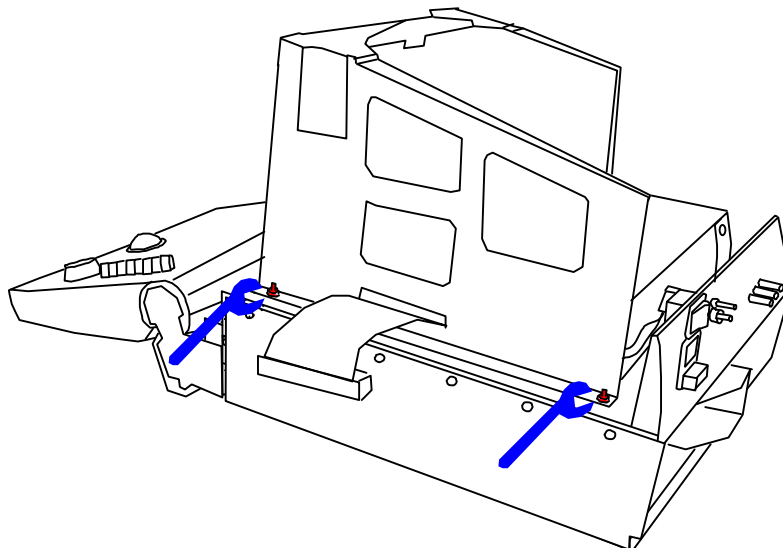

Fig. 6. 1-21. Nuts holding the monitor assembly
3. Remove the floppy disk drive from the Monitor assembly by unscrewing the three screws underneath the monitor, see Fig. 6. 1-22.